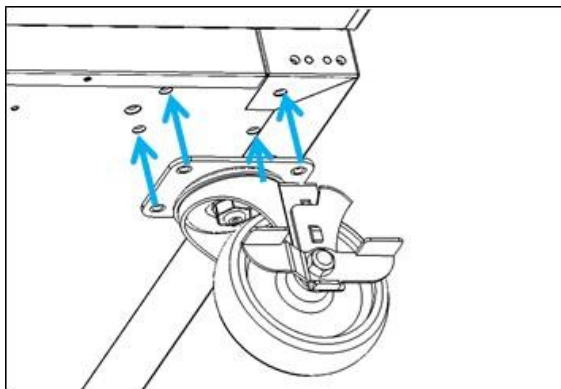

Figure 4
(2) Undercounter and Food Prep Tables (Figure 4): Install casters in the bottom rails assembly on the bottom of the unit with 4M6 bolts for each caster. This is required in order to achieve maximum strength and stability of the unit. Casters with brakes must be installed in front and the casters must be in contact firmly with the bottom rails of the unit.